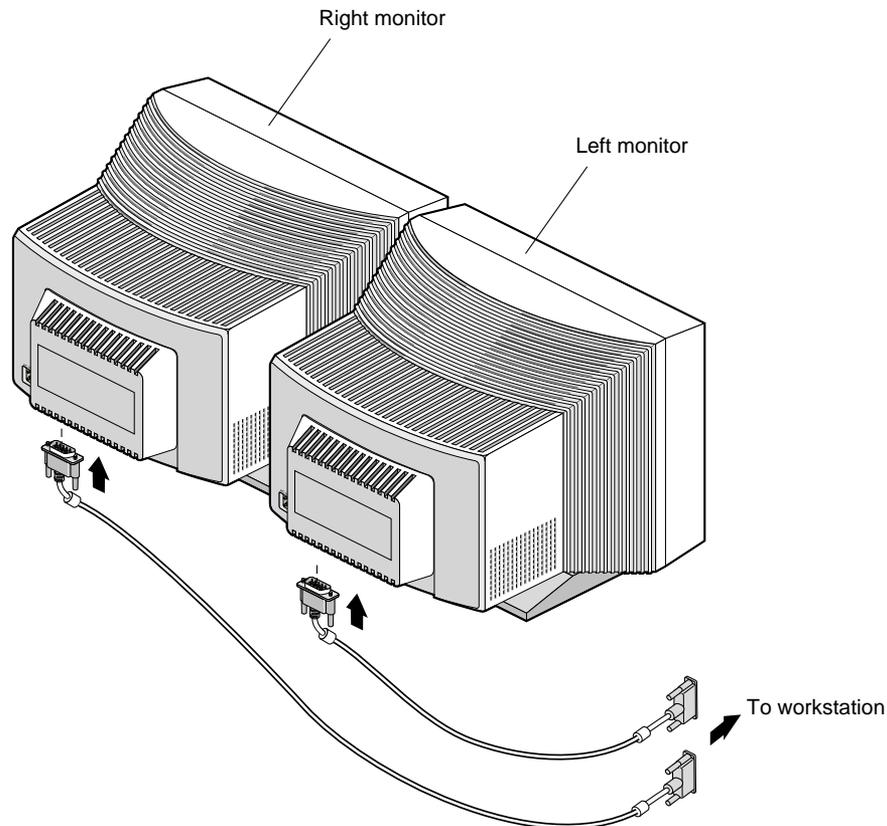

Figure 2-1 Connecting the Monitor Cables to CRTs
3. Connect the VGA end of each DVI/VGA cable to the VGA connector on the back of each monitor, then tighten the thumbscrews on both sides of each connector (see Figure 2-1).